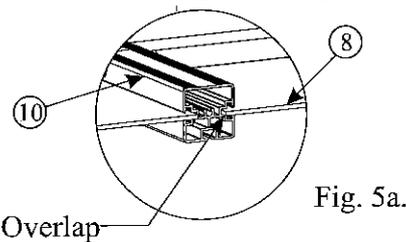

Fig. 5a.
6 Slide the PET Sheet (8) into the Bent Supports, ensuring the Sheets sit atop the pre-fitted rubber in the section, as shown in figure 5a. For ease of fitting, use a silicone based lubricant to reduce friction during fitting. Ensure someone is present at the rear of the Shelter to guide the Sheet into the extrusion of the Back Supports. The PET Sheet should sit around 13mm proud of the front of the Bent Supports, as shown in figure 5a. Repeat for all PET Sheets.